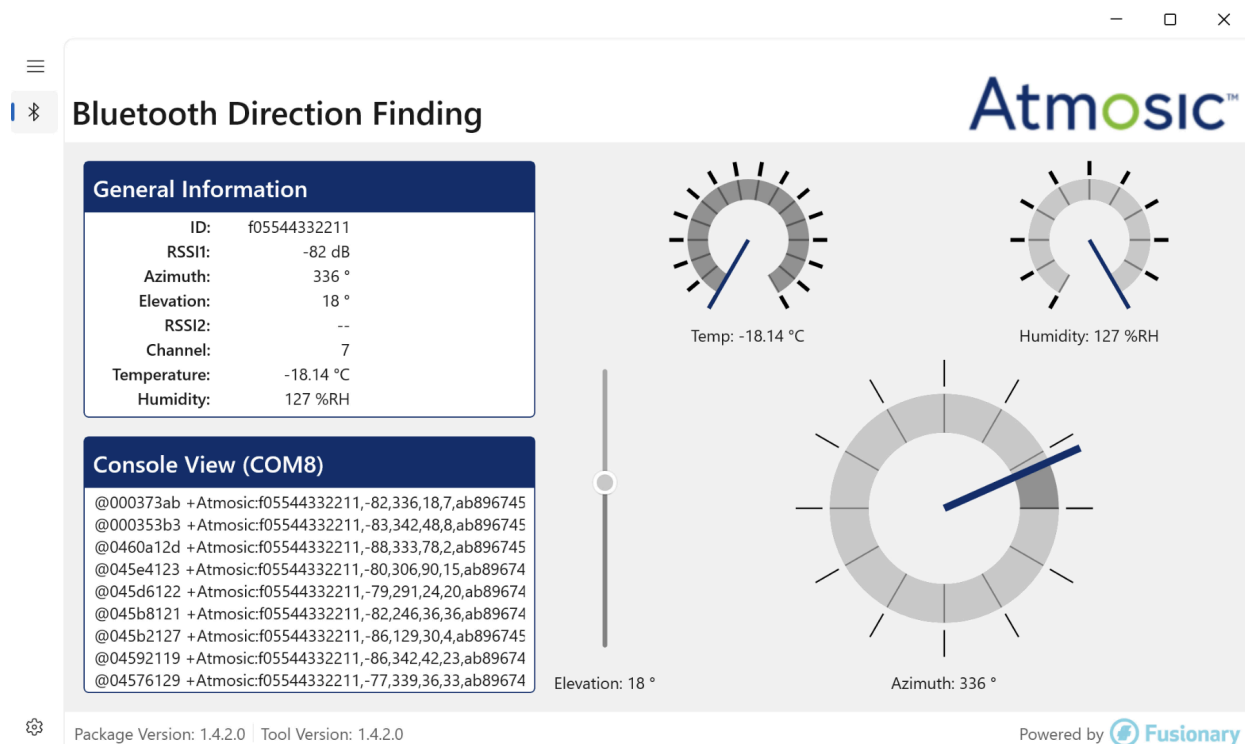

Figure 8 - GUI Dashboard
- Figure 8 - Updated GUI Dashboard
Once the Locator is successfully connected and the Tag is powered, the GUI dashboard will be populated with data, see Figure 8.